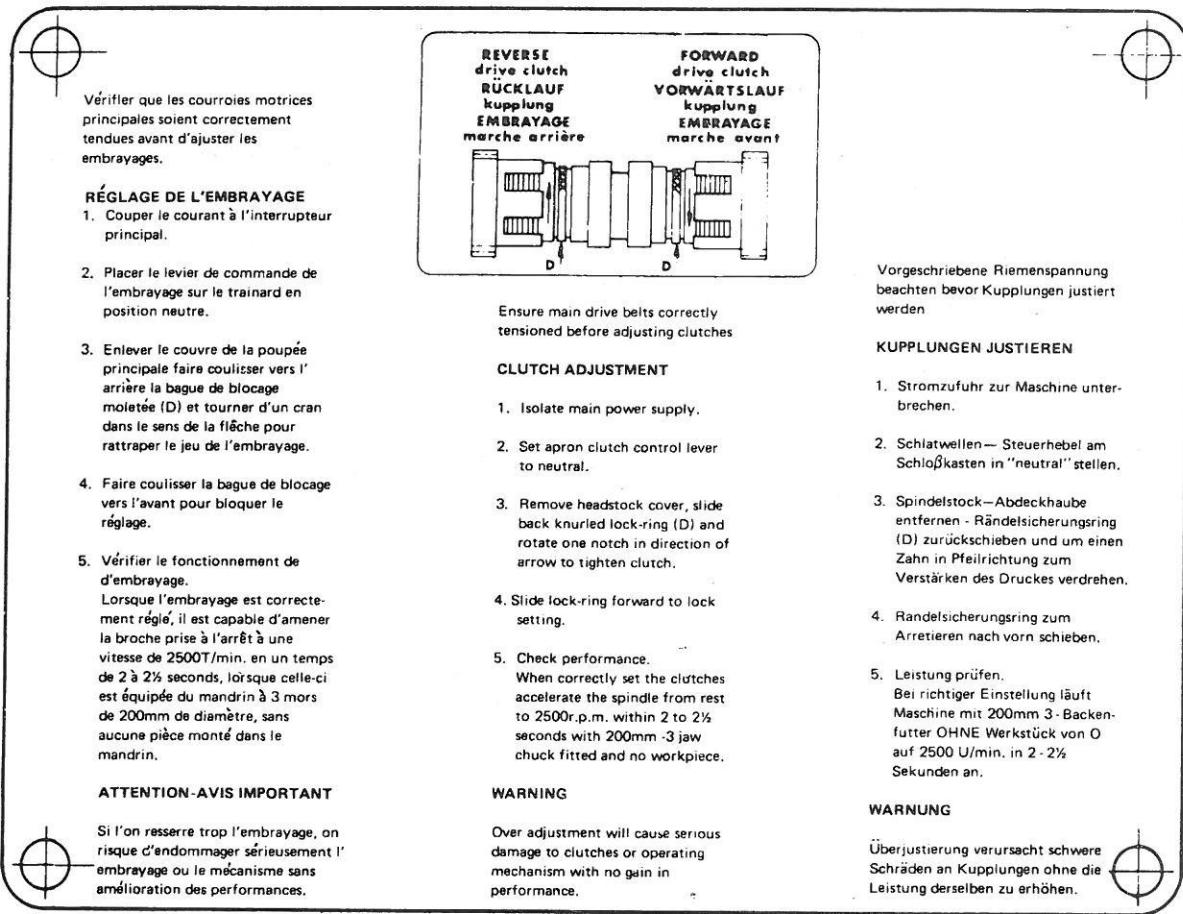

Fig. 23
Two multi-plate clutches (A and B of Fig. 23) provide drive for forward and reverse headstock spindle rotation.
- Slide back knurled lock-ring from each clutch in turn and rotate it one notch at a time in direction of arrow (Fig. 23) to tighten the clutch. Slide lock-ring back into position to lock this setting.